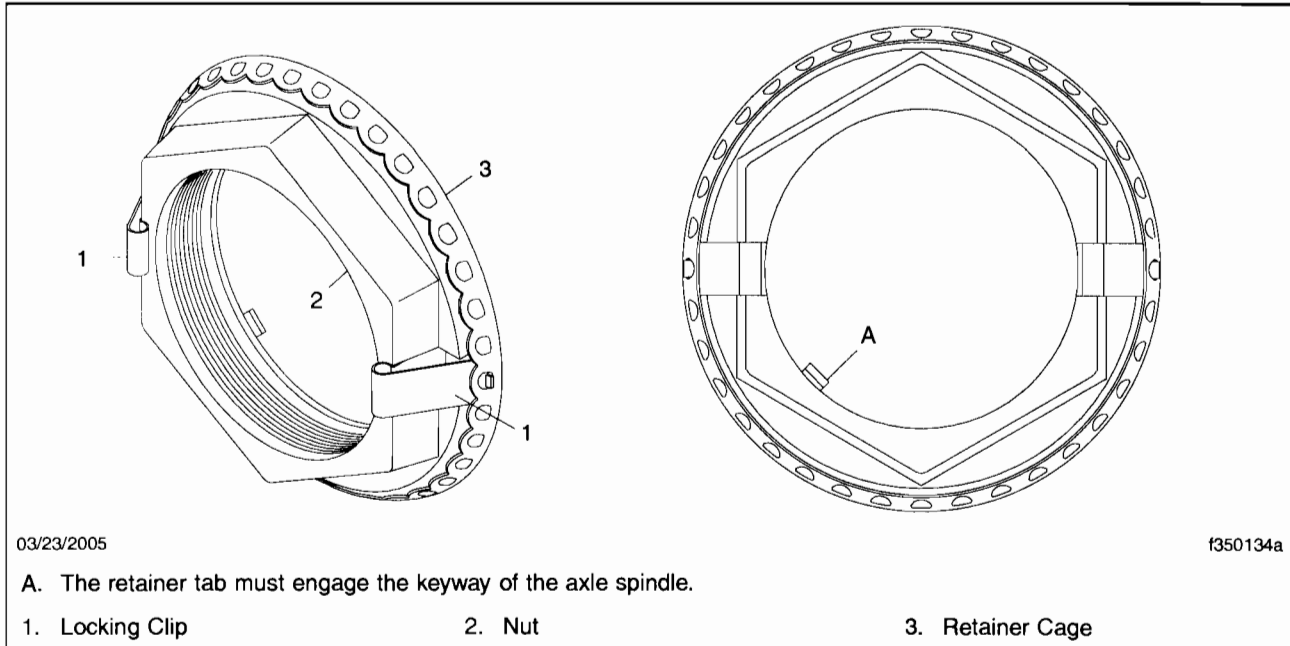

Fig. 1, Axilok Nut
6. Inspect the Axilok nut to verify whether either locking clip is bent, broken, or damaged. See **Fig. 1**. Repeat these steps for all affected axles.